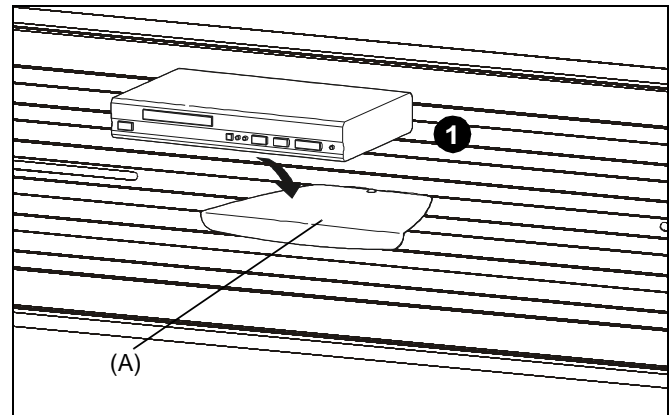

Figure 3
1. Place equipment on shelf (A). (See Figure 3)